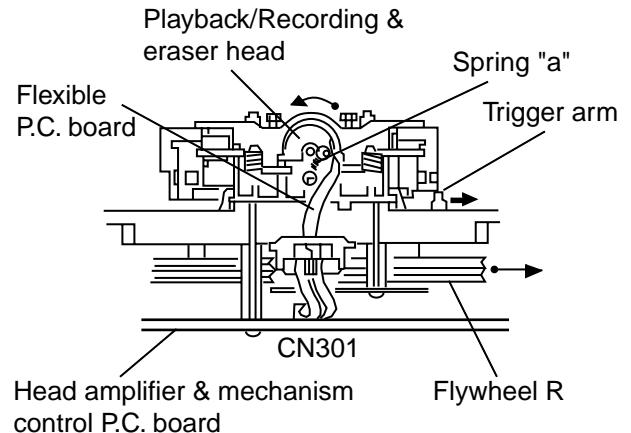
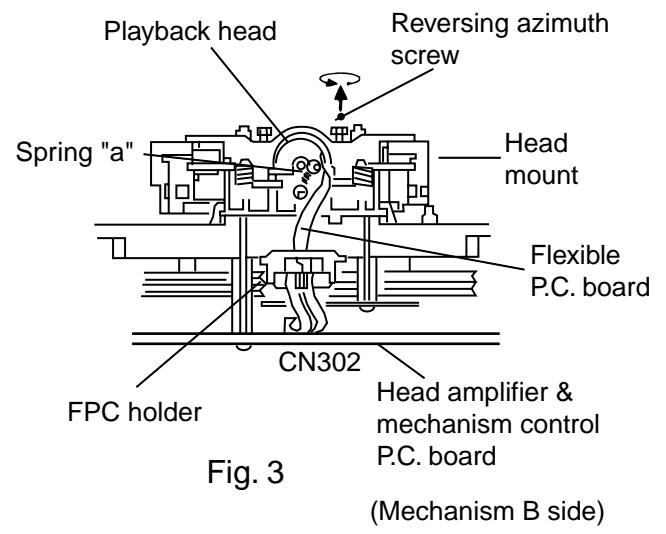

Fig. 2 (Mechanism A side)
Fig. 3 (Mechanism B side)
2. When the flywheel R is rotated in counterclockwise direction, the playback head will be turned in counterclockwise direction from the position in Fig. 2 to that in Fig. 3.
### ● Reassembling the Playback, Recording and Eraser Heads (See Fig.2,3)
1. Reassemble the playback head from the front of the head mount to the position as shown in Fig. 3.
4. Attach the flexible P.C. board to the chassis base, and fix it with the FPC holder as shown in Fig. 3.